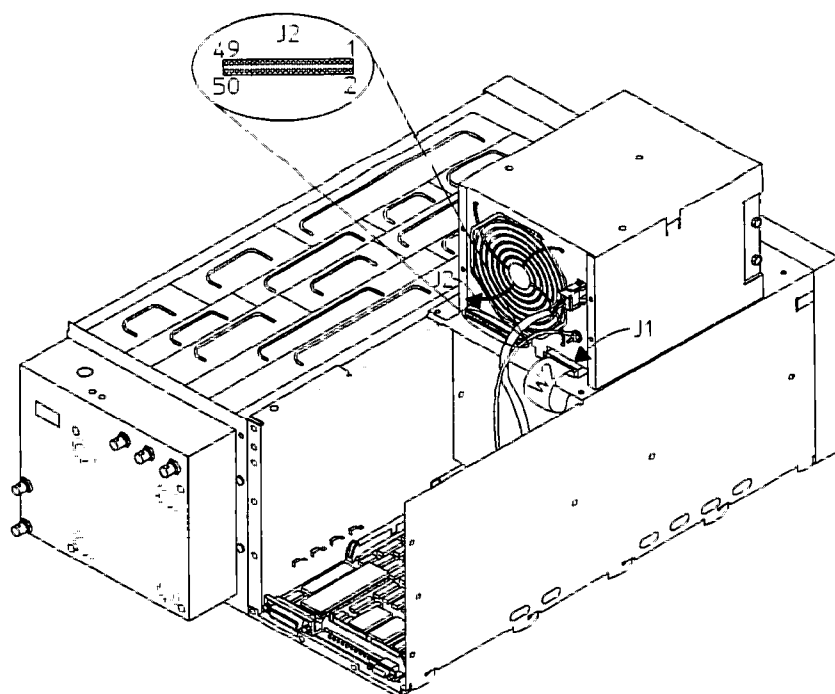

Figure 4-22. Troubleshooting Trigger/Gate
- c. Using a logic probe, monitor J2 pin 1 (see figure 4-22) while sending an HP-IB trigger. If the signal at J2 pin 1 toggled when the HP-IB trigger occurred, the A33 Trigger assembly is probably faulty. If the signal did not toggle, the A81 CPU assembly is probably faulty.